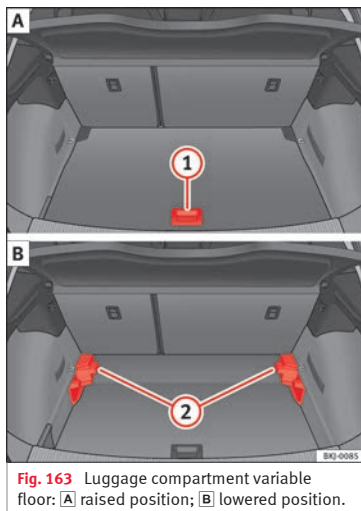

Fig. 163 Luggage compartment variable floor: **A** raised position; **B** lowered position.
- Lift the floor using handle » **Fig. 163 ①** and pull it back until the front of the floor has fully passed the supports **②**.
- Move the floor forward over the supports as far as the rear seat backrest and then lower the floor with the handle **①**.